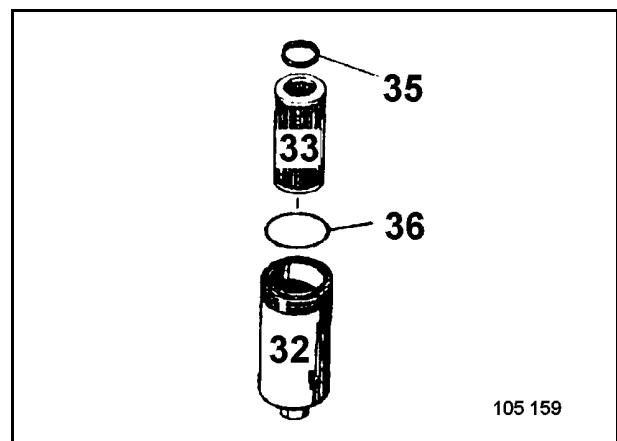

Fig. 3-142:
- Unscrew filter housing (32, Fig. 3-142:).
- Withdraw filter element (33) from housing (32).
- Insert filter element into housing (32) and attach to the filter head with a new, slightly oiled sealing ring (36).